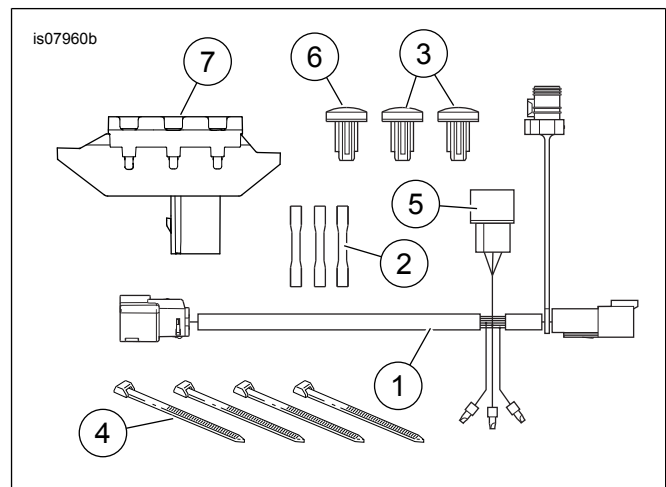

Figure 3. Service Parts, Electrical Connection Harness
See Figure 3 and Table 3.
3. Remove block off-panel. See service manual. See Figure 3. Install switch panel (7) and switches (3) and (6) with the "ACC" switches in the center and right position.
See Figure 3. The relay (5) needs to be positioned with the terminals facing down.